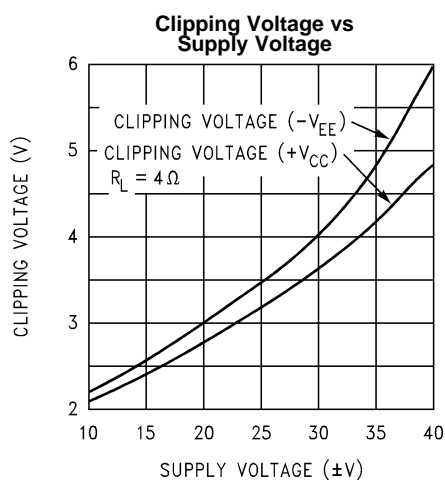

Figure 14.
(8) DC Electrical Test; refer to Test Circuit #1- DC Electrical Test Circuit.
(9) The output dropout voltage is the supply voltage minus the clipping voltage. Refer to Figure 14 in Typical Performance Characteristics.